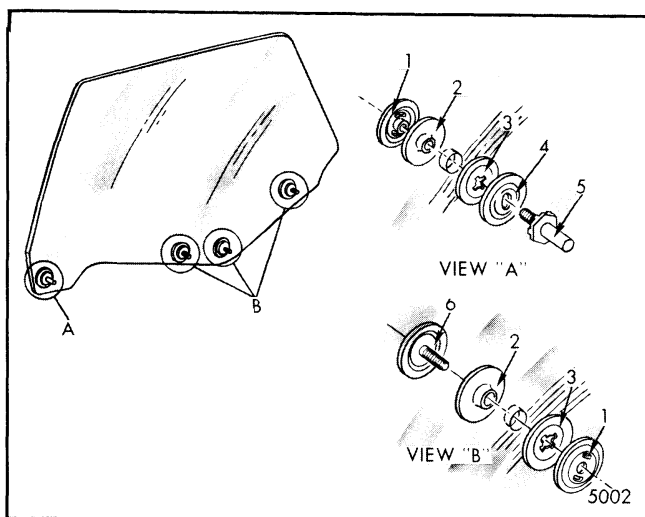

Fig. 5-135-Rear Door Window Assembly - 6CB69 Styles
Figure 5-135 is an exploded view of the window assembly and identifies the various components and their assembly sequence.
**NOTE:** When replacing window assembly, install new glass spacers and washers ("2" and "3", Fig. 5-135) and torque glass components attaching nuts to 72 inch pounds (6 foot pounds).